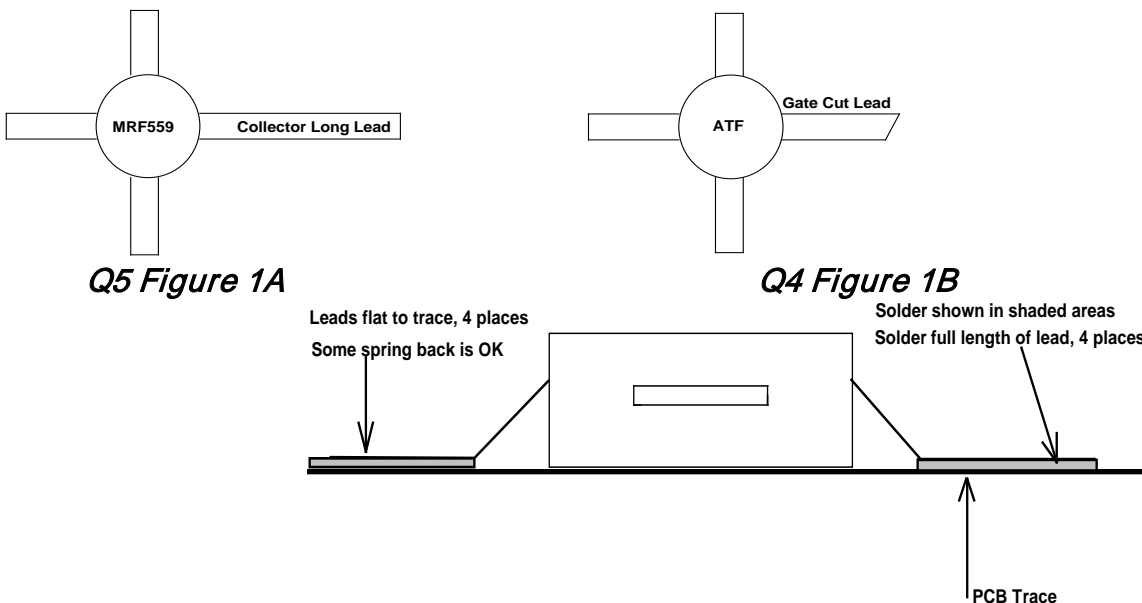

Figure 2 Typical side view of four leaded surface mounted device, lead bending close to body
- The DOTS on the MMIC's (IC1, IC2, IC4, IC7) determine their orientation and must be observed and positioned correctly prior to soldering. The GaAs-FET (Q4) and Bipolar (Q5) orientation is determined by their lead formation, either longer or angle cut. The GaAs-FET Q4, (see figure 1B) angle cut lead is the Gate side which corresponds to the "G" on the assembly diagram. The long lead on the Bipolar Q5,(see figure 1A) is the collector and corresponds with the "C" on the assembly diagram. Leads on all active surface mounted components should be somewhat flat against the mounting surface, if they are not, a small tool such as a small bladed screw driver can be used to flatten them (See Figure 2).
- If the alignment is acceptable, solder the remaining leads. You need enough solder to cover the lead and mounting surface for the entire lead length. Additional amounts results in a smaller solder roll! (See Figure 2 shaded areas)